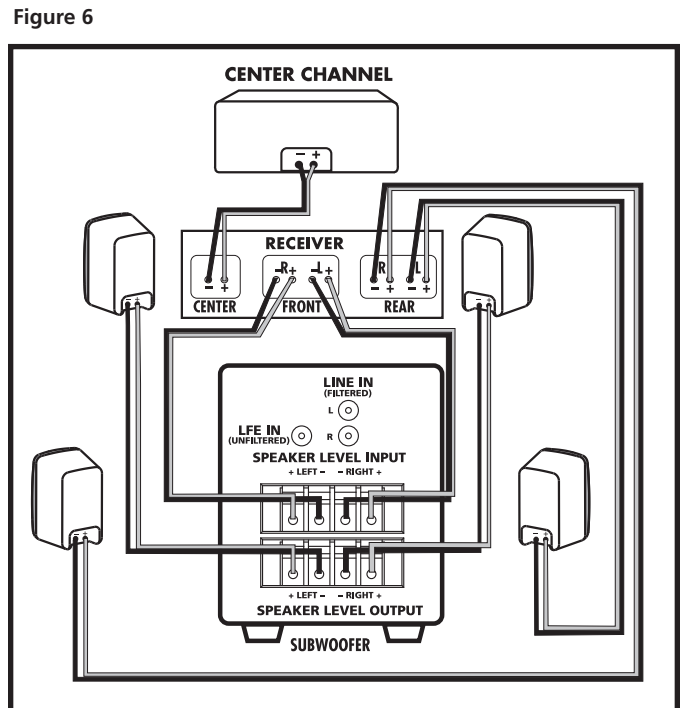

Figure 7
- If it is more convenient, parallel wire the subwoofer and front satellites from your receiver (Figure 7).